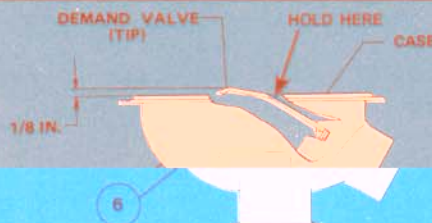

FIGURE 3
2. To change the lever height, insert the slot on the tool onto the lever just below the bend point (See Figure 3).
6. Rotate the adjustable orifice (14) until it just touches poppet assembly (10). This can be accomplished by alternately blowing into the hose connection and adjusting the seat.